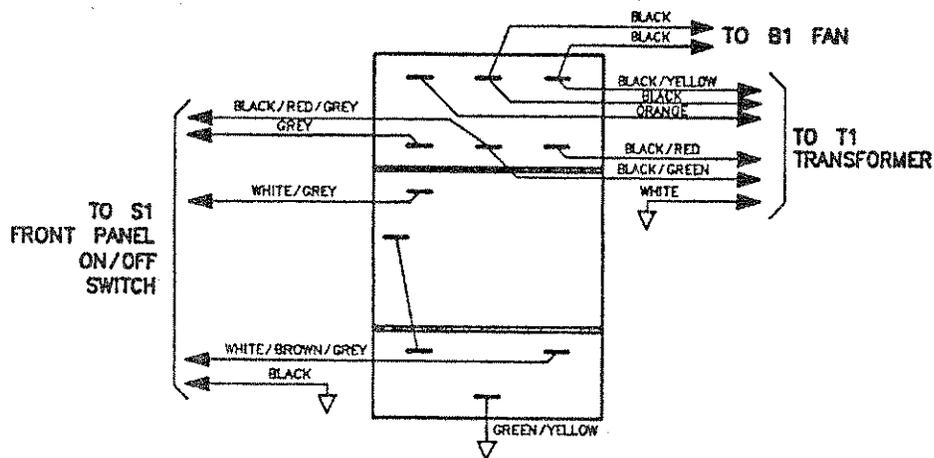

Figure 5-18. Wire Connections to Line Module FL1
7. Remove transformer T1. When replacing the transformer, refer to Figure 5-18, which illustrates the locations of the various wires connected to line module FL1.